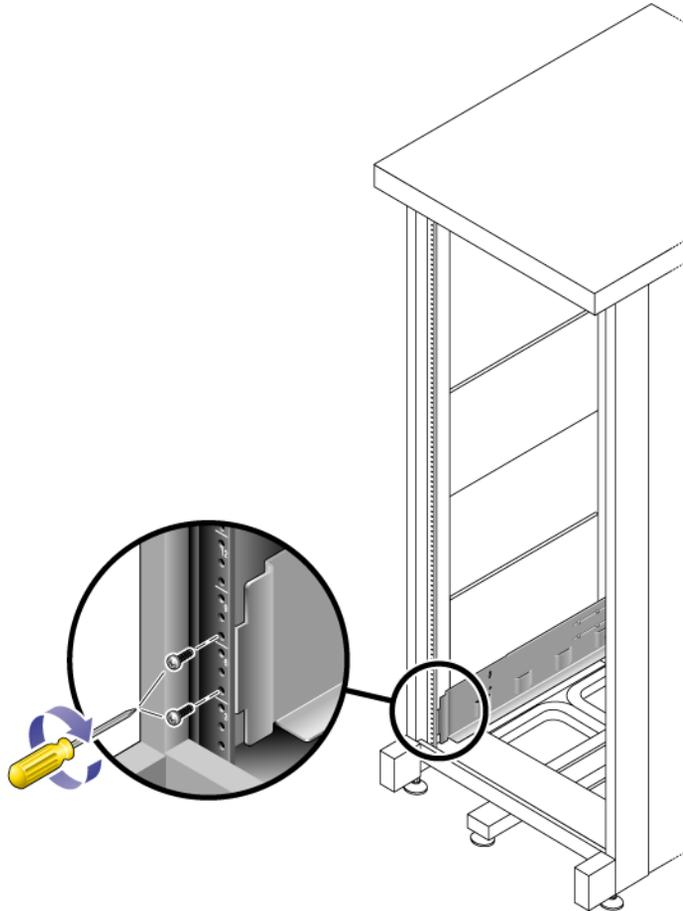

FIGURE 2-4 Securing the Left Rail to the Front of the Cabinet
2. Use the No. 2 Phillips screwdriver to insert and tighten two 8-32 screws to secure the left rail to the front of the cabinet (FIGURE 2-4).